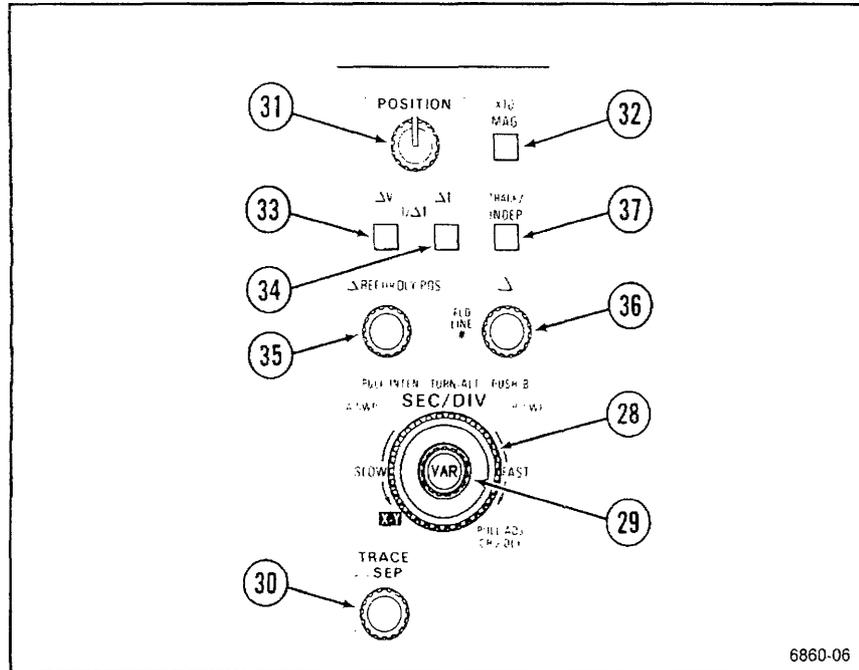

Figure 5-5. Horizontal and delta measurement controls.
Refer to Figure 5-5 for the location of items 28 through 37.